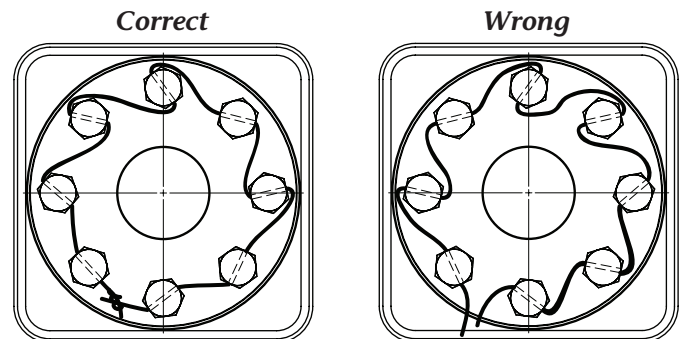

Figure 1 Lock Wire Installation
3. After bolts have been properly torqued, wind wire through holes in bolt heads as shown in *Figure 1*. Feed the wire through the bolt from the center of the kingpin out, moving clockwise from bolt to bolt. Wire should be pulled tight with no slack between bolts. When finished winding, end of wire should be adequately wound with the beginning, so as not to come loose.